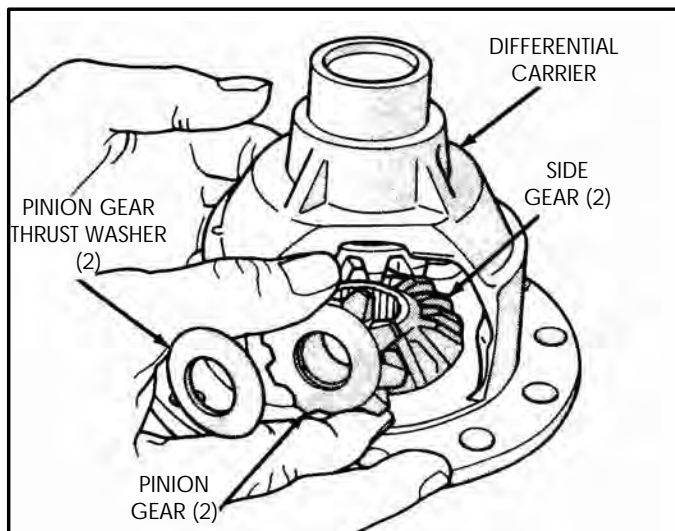

Figure 151
6. Remove or install pinion gears, side gears, and tabbed thrust washers, by rotating pinion gears to opening in differential carrier, as shown in Figure 151.